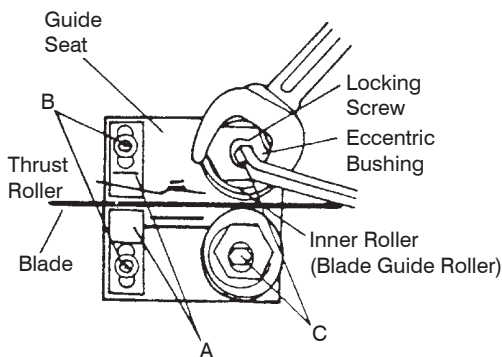

Fig. 9
2. Loosen blade guides (A - Fig.9) by loosening screws (B). Slide blade guides away from blade.
3. Loosen locking screws (C) by using a hex wrench.
5. Tighten locking screws (C).
6. Slide blade guides back into contact with blade and tighten screws (B).